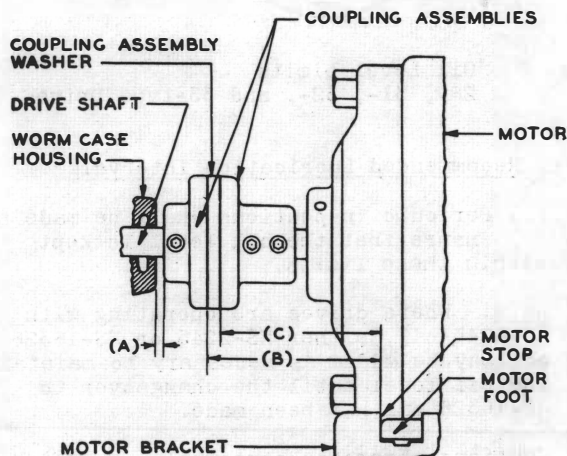

Fig. 9 - Relationship Between Motor and Coupling Assembly
2.10 Location of Coupling Assembly on Drive Shaft: Fig. 9(A) - With the motor
Fig. 9(B) - The finished surface of the motor stop shall be 2-23/32 inches $\pm 3/64$ inch in a horizontal line from the face of the coupling assembly mounted on the drive shaft.
Fig. 9 (C) - The face of the coupling assembly on the drive motor shaft shall be set with its face located $2-7/16$ inches $\pm 1/64$ inch from the finished end of the motor feet.